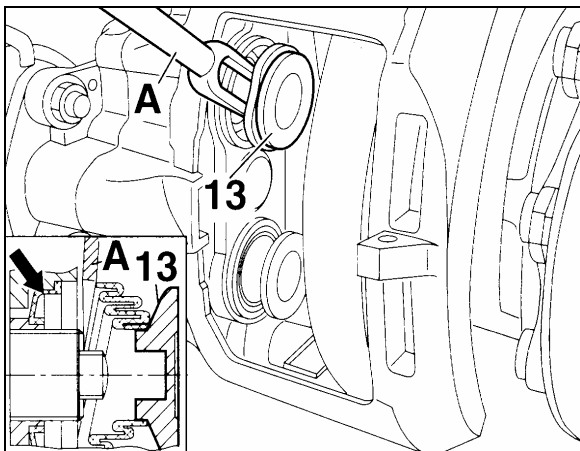

FIGURE 36: RUBBER BOOTS
- The rubber boots (13, Fig. 36) should show no damage, check the attachment.